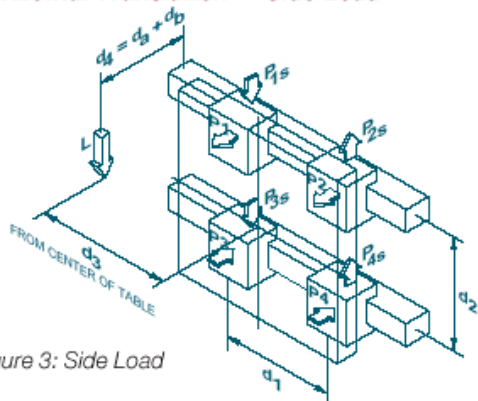

Figure 3: Side Load
The previous loading scenarios have involved only normal forces (compressional or tensional) on the bearings. Consider a positioner as shown in Figure 3, which involves a lateral (side) load applied to the carriage which translates horizontally. The load vector (L) is shown applied at a point whose coordinate distances from the center of the carriage bearing system are given by dimensions d3 and d4. Note that d4 is the sum of distance da—the distance between bearing and center and